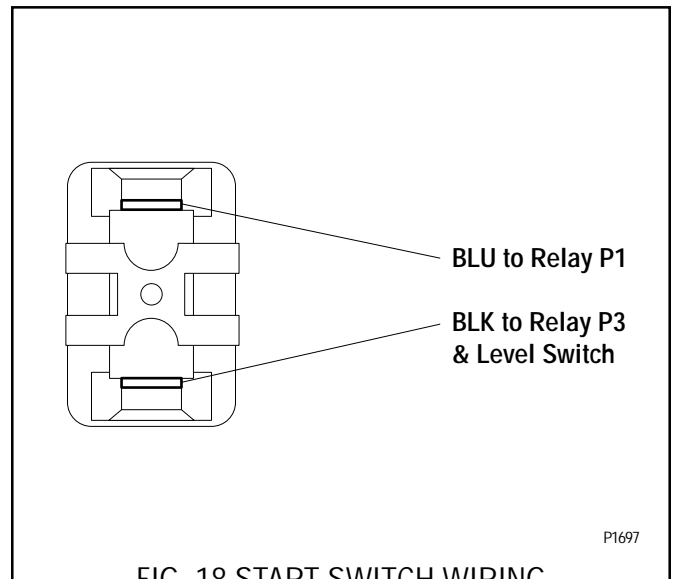

FIG. 18 START SWITCH WIRING
4. Refer to FIG. 18 when reconnecting the wires.